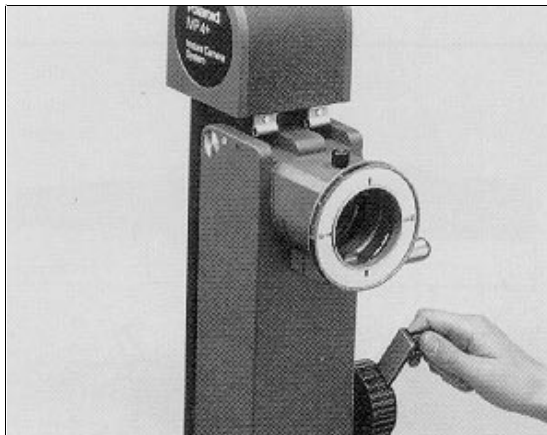

Figure 2-11. Vertical Carriage at Top of Column
c. Unlock the vertical carriage, bring it all the way to the top of the column (figure 2-11), and lock it again.